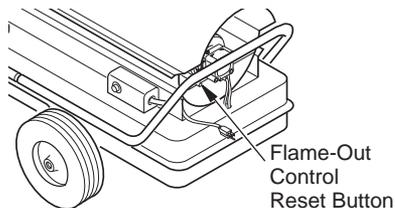

Figure 3 - Flame-Out Control Reset Button
8. The motor will start when extension cord is plugged into outlet. The heater should ignite at once. If heater does not ignite, restart heater. To restart heater, wait 60 seconds, then push in flame-out control reset button. Flame-out control reset button is at rear of heater near power cord (see Figure 3).